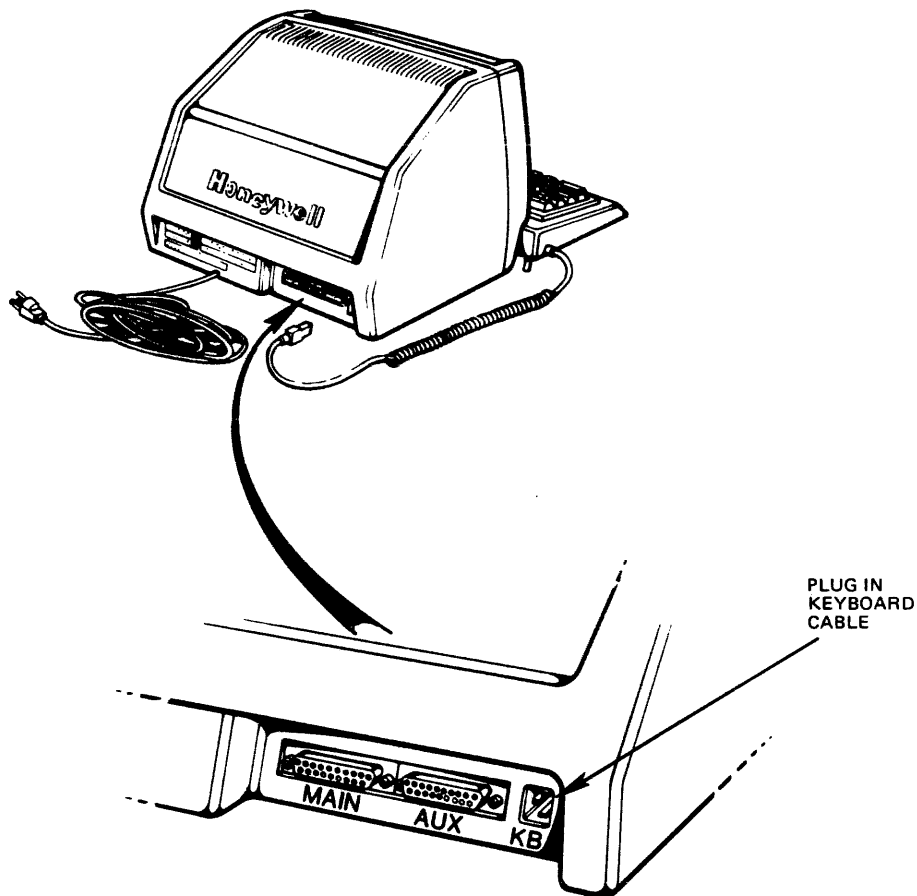

Figure 2-6. Display Unit Communications Interface
1. Plug the keyboard cable into the socket labeled KB on the back of the display unit (see Figure 2-6).
3. Connect the data cable into the 25-pin connector labeled MAIN (see Figure 2-6).